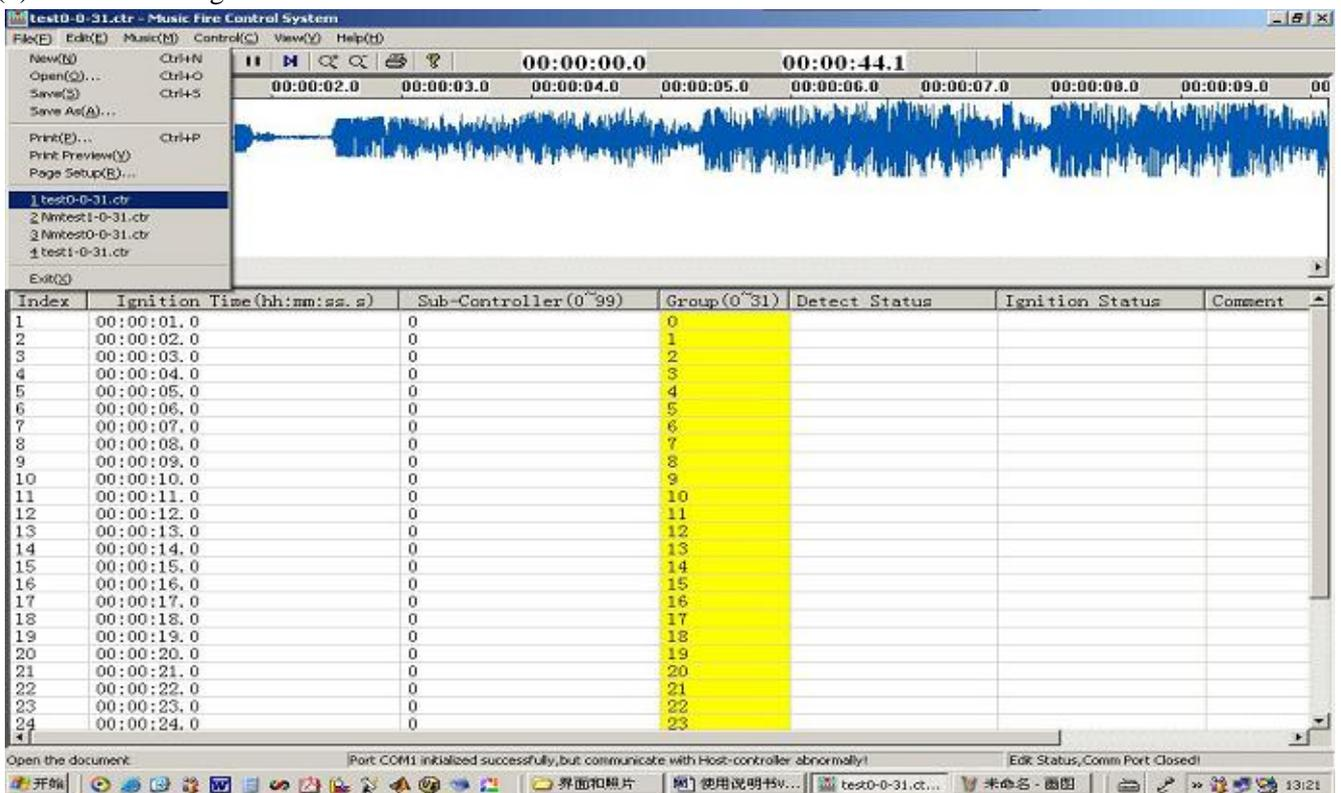
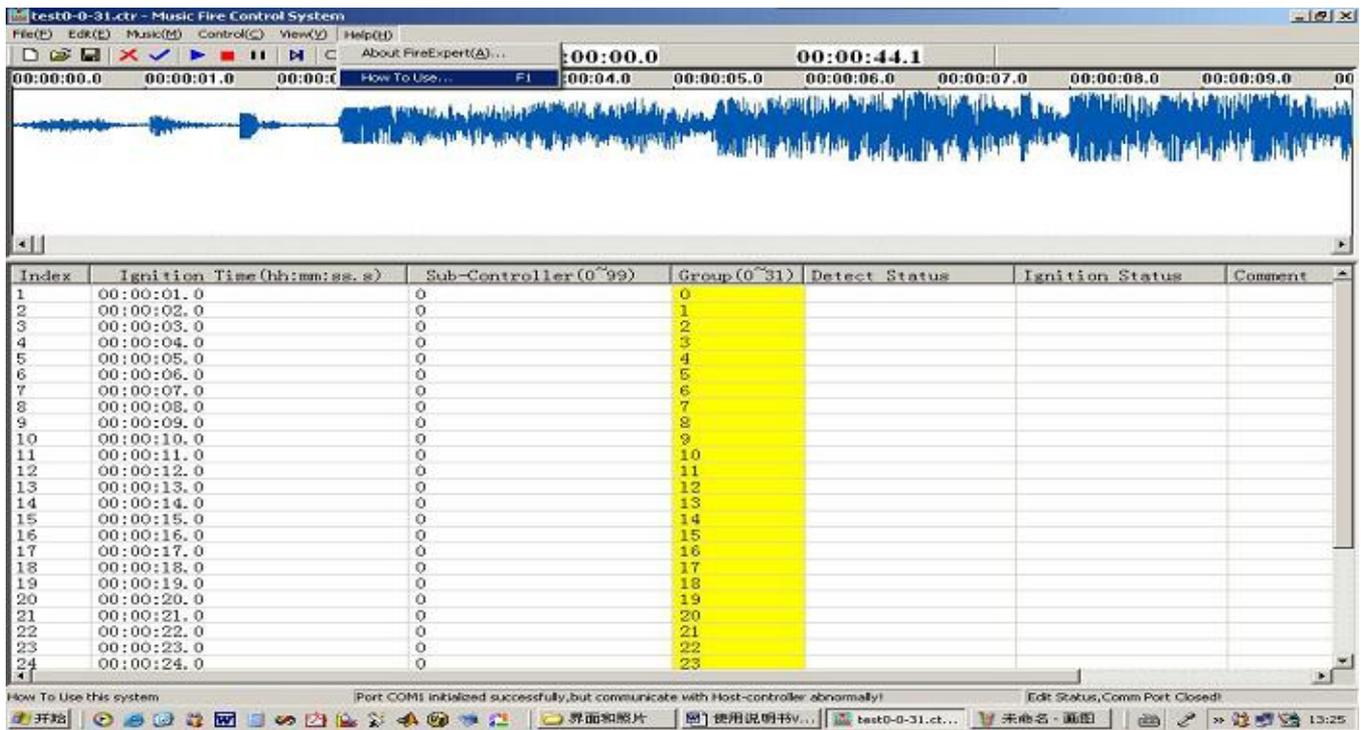

fig 14 "File" Menu
fig 19 "Help" Menu
3. Menus. Show in fig 14 to fig 19.
(1) File: Show in fig 14.
(6) Help: show in fig 19. Click the menu items can display the version of the program and open the User's manual.